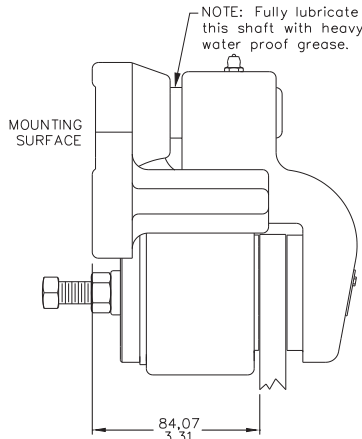

FIGURE 2
1. Figures 2 and 3 on page 2 illustrate the two methods of mounting this series of brakes. See mounting bracket shaft grease note. The mounting surface to disc face
Dimensions shown in Figures 2 and 3 are typical for all models. Mounting surface to disc face dimension is typical of rectangular and triangular brackets. Mounting bolts not included.